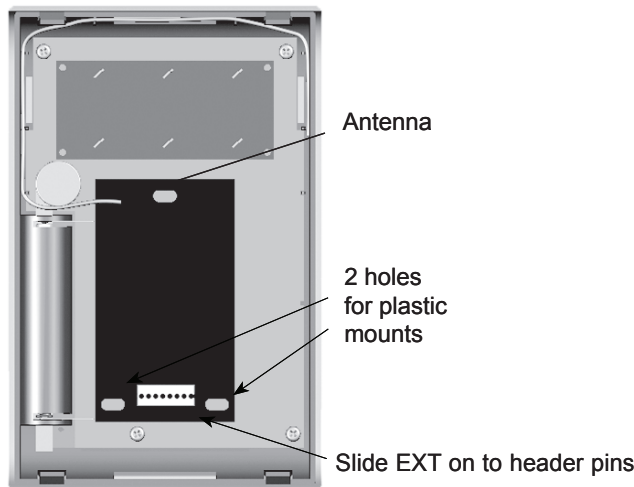

Figure 2: Mounting the EXT in an LCD Keypad
2. Carefully snap the plastic mounts (included with the EXT) into the mounting holes on the LCD board as shown in Figure 2.